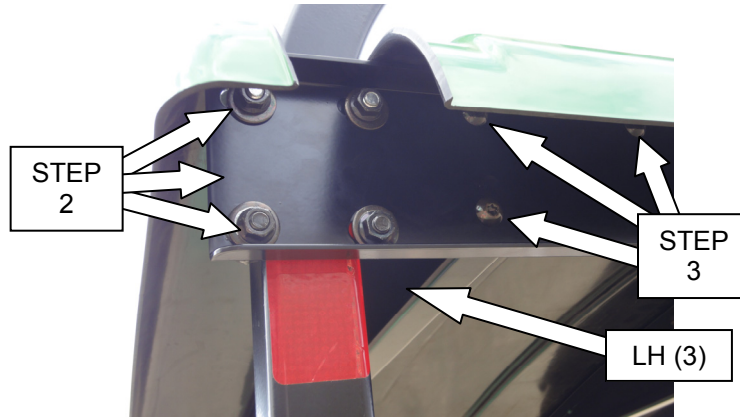
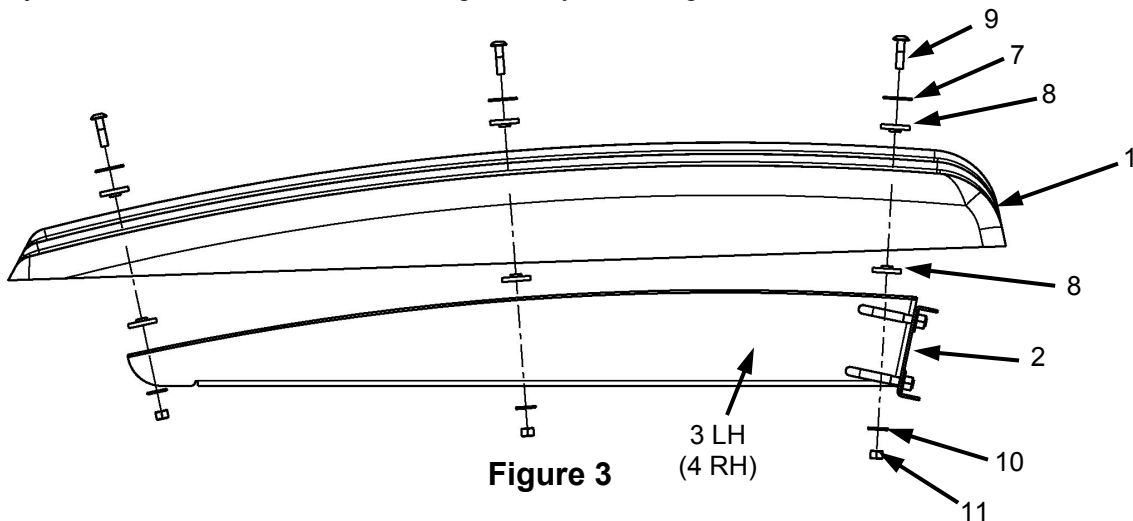

Figure 2
Figure 3
- Place and attach rear cross member (2) to outside surface of ROPS top hoop, as shown in **Figure 2**.
- 4 - U-bolts for square tube, 3x2x3 (6)
- 8 - 3/8" Flat washers (14)
- 8 - 3/8" Nylock nuts (12)Tighten bolts but leave loose enough for up/down adjustment required later in these instructions.
- Secure LH bracket (3) and RH bracket (4) to rear cross member (2) using (**Figure 2**);
- 6 - 3/8" x 3/4" long, hex head bolt (13)
- 6 - 3/8" nylock nut (14)Tighten bolts but leave loose enough for some adjustment if needed.
- Place plastic roof (1) on top of LH and RH brackets and secure to brackets using (**Figure 3**);
- 6 - 5/16" x 1.25" long, truss torx head bolt (9) (top side of roof)
- 6 - 5/16" fender washer (7) (top side of roof)
- 12 - 5/16" rubber washer, shoulder (8) (one washer on each side of roof)
- 6 - 5/16" flat washer (10) (bottom side of brackets)
- 6 - 5/16" nylock nut (11) (bottom side of brackets)